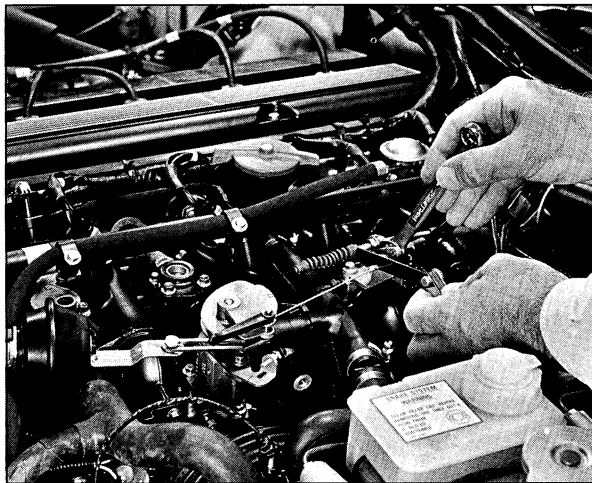

FIG 7
**Adjust at idle position** Return the bellcrank to the idle position. Adjust the cable to achieve a gap of 0.030 in.  $\pm$  0.020 in. between the lug and the outer cable (FIG 7).